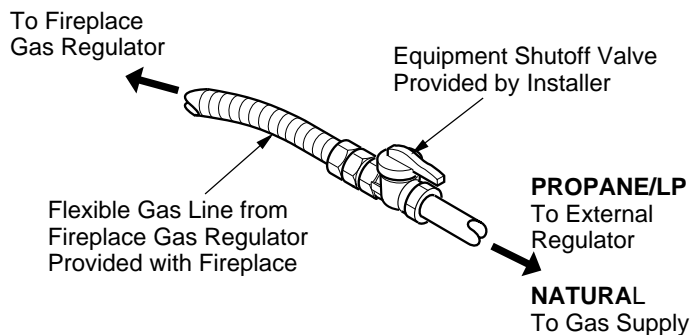

Figure 26 - Attaching Flexible Gas Line to Equipment Shutoff Valve
4. Apply pipe joint sealant lightly to male threads of gas connector attached to flexible gas line/equipment shutoff valve (see Figure 26).